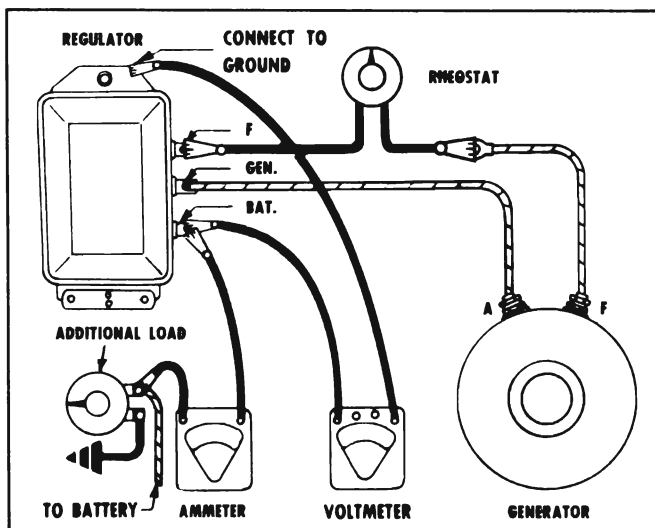

Figure 10-17—Testing Current Regulator
14. Connect ammeter as described in the test instrument pamphlet and connect an additional load from the charging circuit to ground. Adjust load to obtain highest possible reading on ammeter. See Figure 10-17.